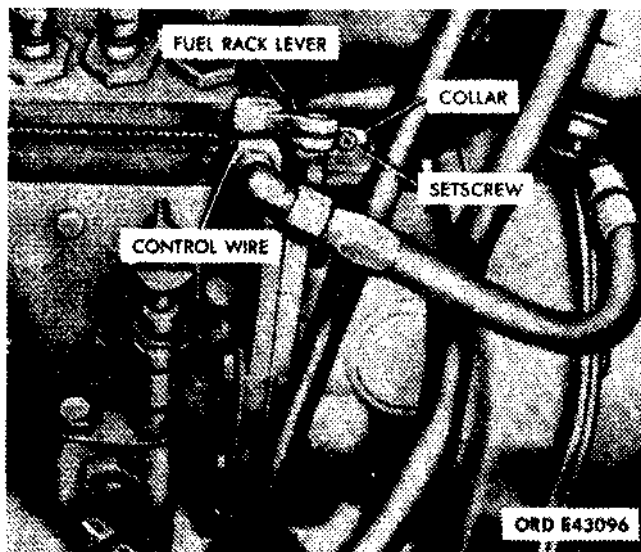

Figure 2-82. Removing emergency fuel shutoff control wire—diesel only.
- (1) Loosen the setscrew securing the control wire to the collar. Remove the collar (fig. 2-82).